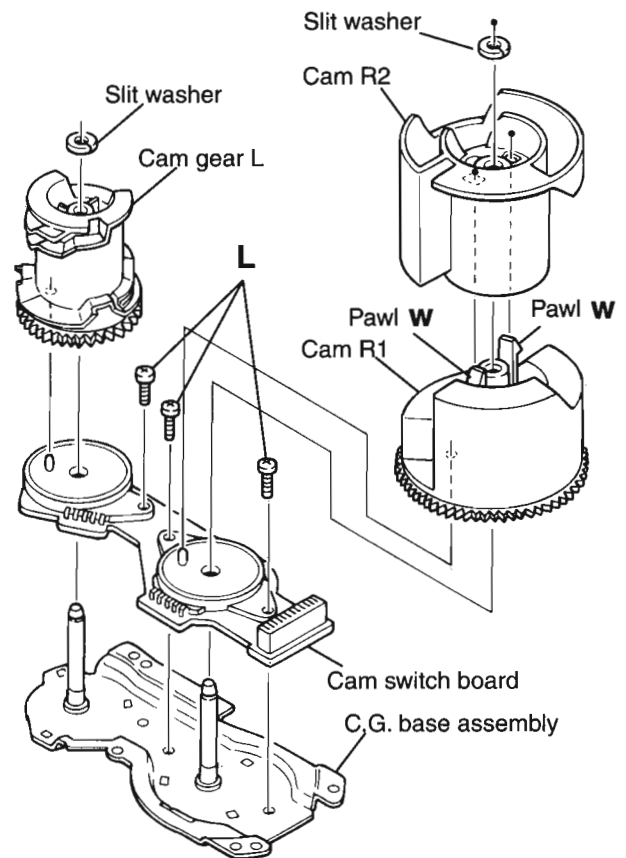

Fig.22
**[Note]** When the chassis assembly is turned over under the conditions wherein the gear bracket and belt have been removed, then the pulley gear as well as the gear, etc. constituting the gear unit can possibly be separated to pieces. In such a case, assemble these parts by referring to the assembly and configuration diagram in Fig. 22.
**■ Removing the cams R1/R2 assembly and cam gear q(See Fig.22)**
**■ Removing the C.G. base assembly (See Fig.22 and 23)**